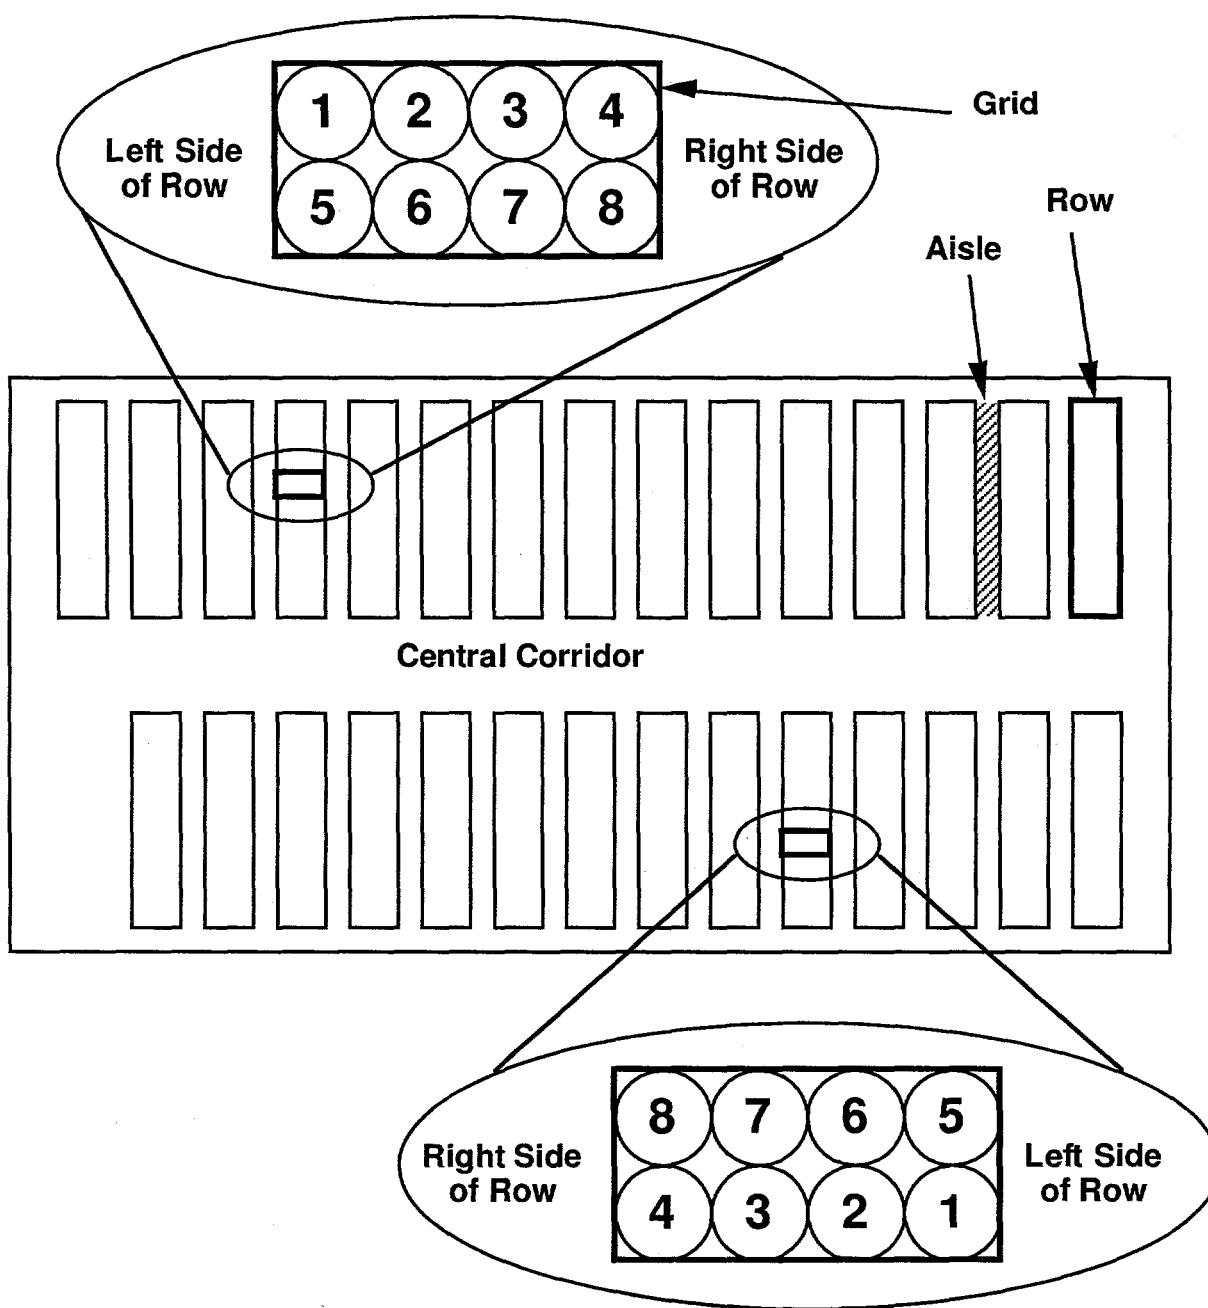

Figure 9-1. Names of some things inside a waste storage building.
Central Corridor: See Figure 9-1. The large open space down the center of the building.
Grid: See Figure 9-1. The pallets on the floor, which are arranged single file down the length of a row, correspond with the positions of grids. Grids, in combination with the position number of a drum on a grid (see Figure 9-1), are a method for determining the location of a drum along the length of a row. The grid closest to the outer wall of the building is numbered 1, and the next grid away from the wall is number 2, etc.
L and R (or Left and Right): See Figure 9-1. The IMSS system makes a distinction between drums facing into the aisle on one side of a row and the drums facing into the aisle on the other side of the row. When standing in the Central Corridor of the building and looking down the length of a row, the Left (L) side of the row is on the left and the Right (R) side of the row is on the right.
Levels: See Figure 9-1. Drums on the floor are at level 1. Drums stacked immediately above level 1, are at level 2. And so on.
Row (also called a Stack by INEL): See Figure 9-1. In the INEL RWMC buildings, a row is a rectangular area outline on the floor. Pallets of drums are arranged in single file down the length of a row. Each row is labeled by a two letter code. The first letter is N or S, denoting that the row is on the North or South side of the building. The second letter is one of A-T, denoting the sequential order/position of the row on that side of the building.